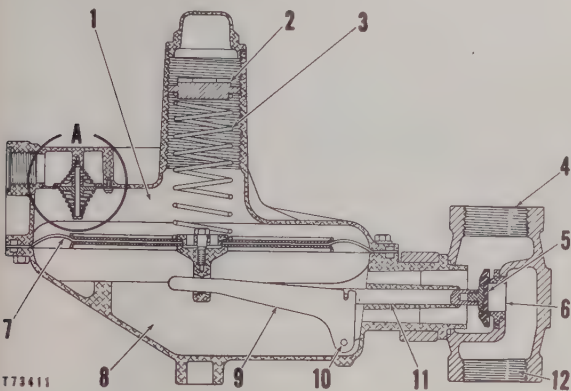

FIG. 1. REGULATOR OPERATION
Gas flows through inlet (12) (Fig.1), orifice (6), past valve disc (5) and through outlet (4). Lower chamber (8) senses outlet pressure.
With orifice (6) closed (Fig. 1), gas is pulled from lower chamber (8) through outlet (4). This reduces the pressure in the lower chamber. As this pressure becomes less than that in the upper chamber, spring (3) and the air pressure in the upper chamber forces diaphragm assembly downward. This opens orifice (6) and allows additional gas flow to the regulator.